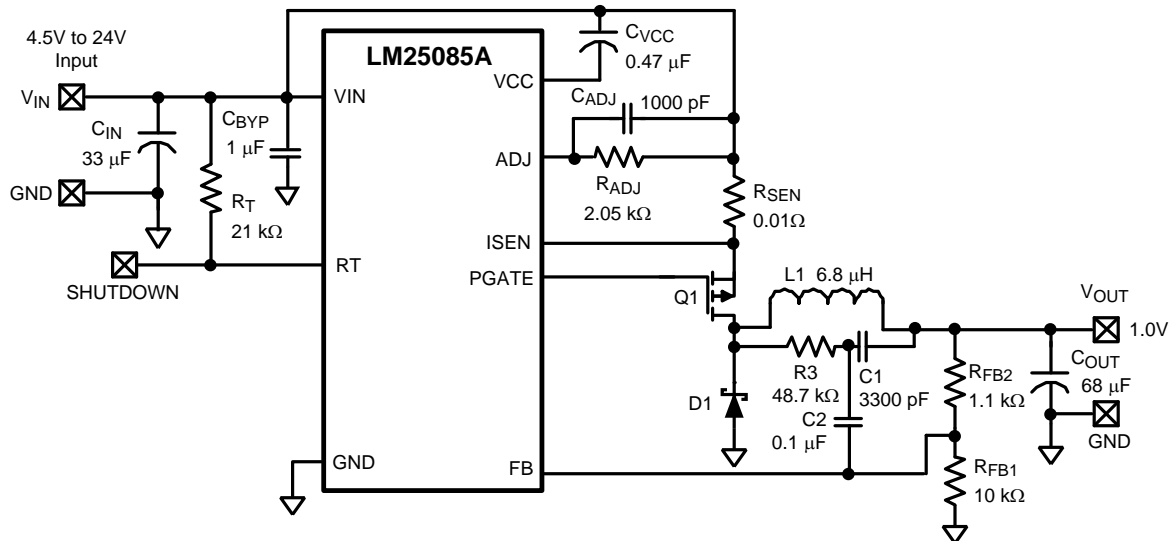
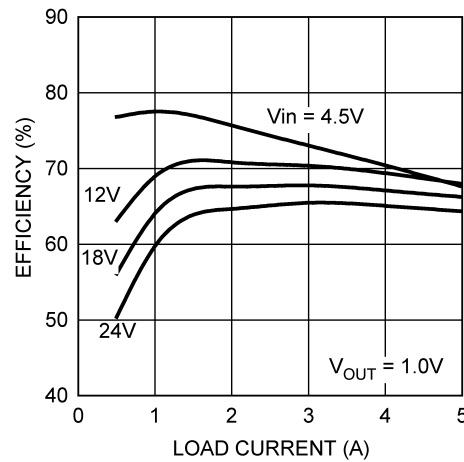
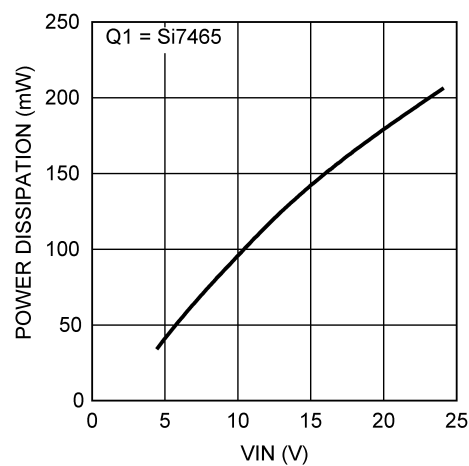

Figure 28. Example Circuit
Figure 29. Efficiency vs. Load Current and  $V_{IN}$  (Circuit of Figure 28)
Figure 32. LM25085A Power Dissipation (Circuit of Figure 28)
The final circuit is shown in Figure 28, and its performance is presented in Figure 29 through Figure 32. The measured efficiencies shown in Figure 29 are typical for a buck converter producing a low output voltage (1V).
The minimum ripple configuration, using C1, C2 and R3, used in the example circuit Figure 28, results in a low ripple amplitude at  $V_{OUT}$  determined mainly by the characteristics of the output capacitor and the ripple current in L1. This configuration allows multiple ceramic capacitors to be used for  $V_{OUT}$  if the output voltage is provided to several places on the PC board. However, if a slightly higher level of ripple at  $V_{OUT}$  is acceptable in the application, and distributed capacitance is not used, the ripple required for the FB comparator pin can be generated with fewer external components using the circuits shown below.
**Reduced ripple configuration:** In Figure 33, R3, C1 and C2 are removed (compared to Figure 28). A low value resistor (R4) is added in series with  $C_{OUT}$ , and a capacitor (Cff) is added across  $R_{FB2}$ . Ripple is generated at  $V_{OUT}$  by the inductor's ripple current flowing through R4, and that ripple voltage is passed to the FB pin via Cff. The ripple at  $V_{OUT}$  can be set as low as 25 mVp-p since it is not attenuated by  $R_{FB2}$  and  $R_{FB1}$ . The minimum value for R4 is calculated from: